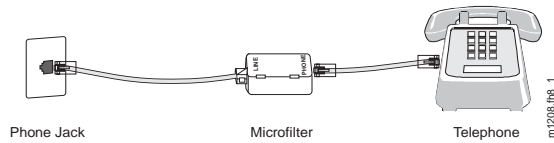

Figure 3-2: Telephone Set Application
7. Connect all remaining telephone devices to a microfilter. See Figure 3-2, 3-3, 3-4 for examples.